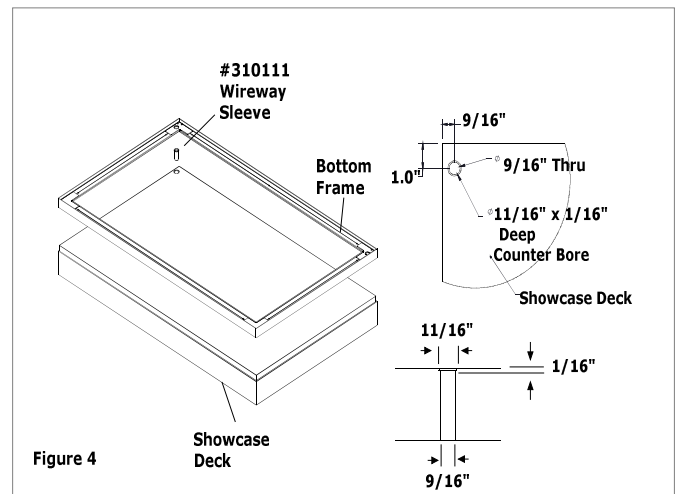

Figure 4
7. In order to install the wireway connector (accessory # 510159) for the showcase lighting, drill a hole in the showcase deck. Use the pre-drilled hole on the bottom frame as a guide for the location of the new hole. **See Figure 4.**
8. Using an 11/16" counterbore bit, drill approximately 1/16" below the deck surface. **See Figure 4.**
9. Drill through the deck with the 9/16" bit. Insert the wireway connector (accessory # 510159), making sure that it fits flush with the deck surface. **See Figure 4.**